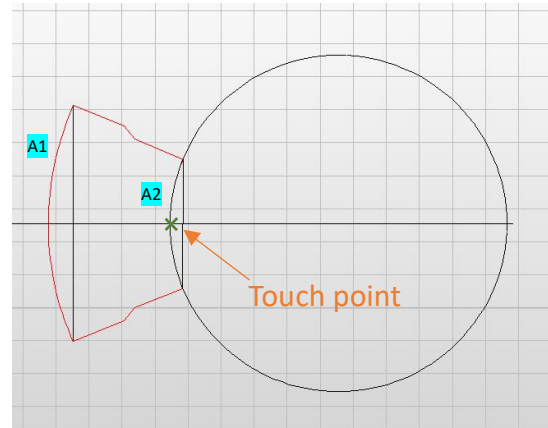

Figure 45
9. **SHIFT:** Shift the circle to its final position, touching the current inner arc **A2** at the symmetrical line (Figure 45).
For the shift point select the **leftmost point on the circle** at the 9 o'clock position. It should be placed on the "Touch point" shown in .Figure 45.